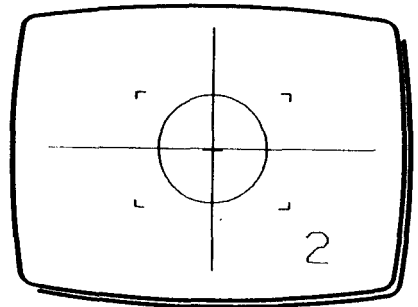

Fig 2
- 4 Move **XY** and rotate **Z** to position the frame cursor over the circle, (2) in Fig 2, enclosing the circle closely.